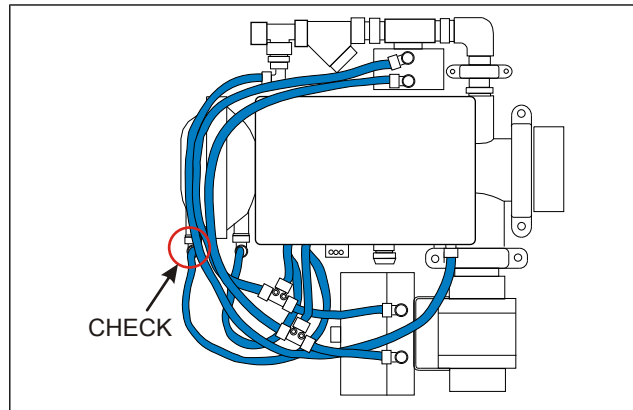
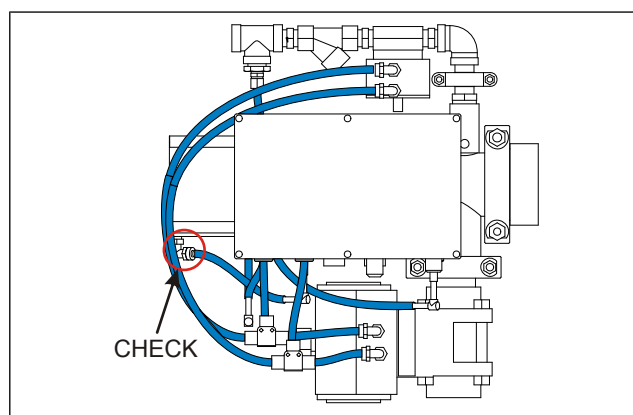

Fig. 5. Valmet SD502, checking the actuator diaphragm.
Fig. 6. Valmet SD505, checking the actuator.
8. Check the condition of the actuator diaphragm (Valmet SD502) / actuator (Valmet SD505): detach the instrument air tube as shown in Fig. 5 or Fig. 6. No air must leak from the connector. If you detect an air flow, replace the diaphragm; see chapter 6.11. / 6.12. Connect the instrument air tube. This requires a process stop, as the sampler must be removed from process.